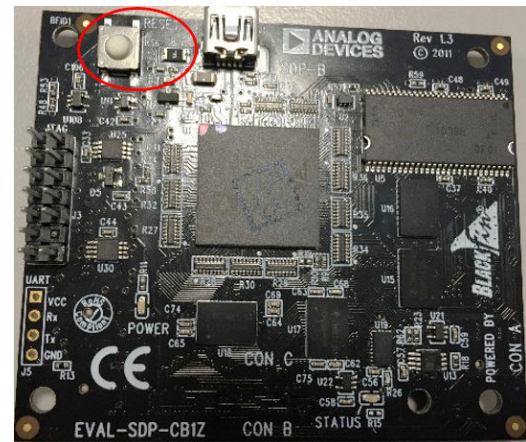

Figure 20. SDP Connectivity Board—RESET Button
- When the software starts running, it searches for hardware connected to the PC. A dialog box indicates when the generic SDP attached to the PC is detected, the main window appears (see Figure 21). Press the **RESET** button on the SDP board, as highlighted in Figure 20.